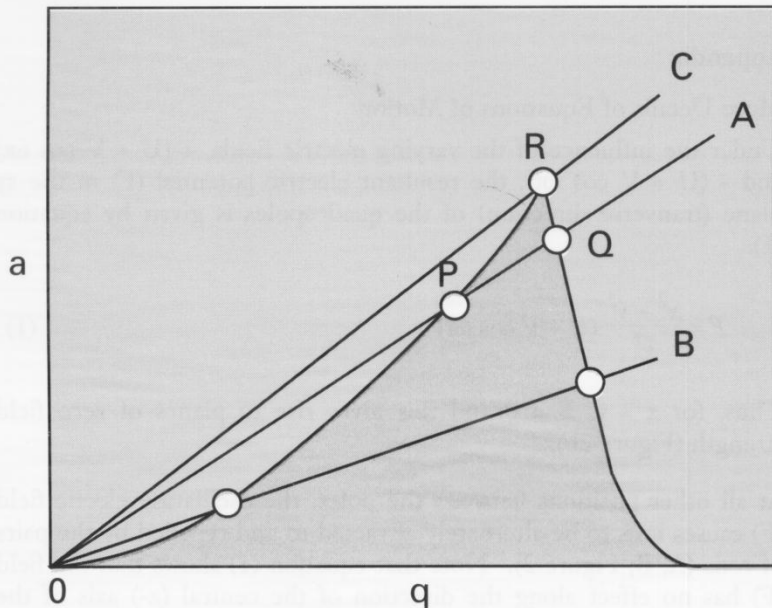

Figure 4. Relationship between a and q . The shaded area indicates regions of stable ion motion through the quadrupolar field
For a line (OB; Figure 4) of smaller slope (smaller a/q or smaller U/V), an even greater range of m/z values will be transmitted through the quadrupole assembly. Conversely, for a line OC which passes through the apex (R) of the region of stability, no ions of any m/z value are transmitted.